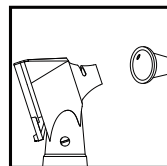

fig.2
- Select a reasonable tip for patient's ear canal and push it onto the hand and screw the tip clockwise, refer to **fig.2**. Generally, the tip size of 4mm is for adult and 2.4mm is for children;